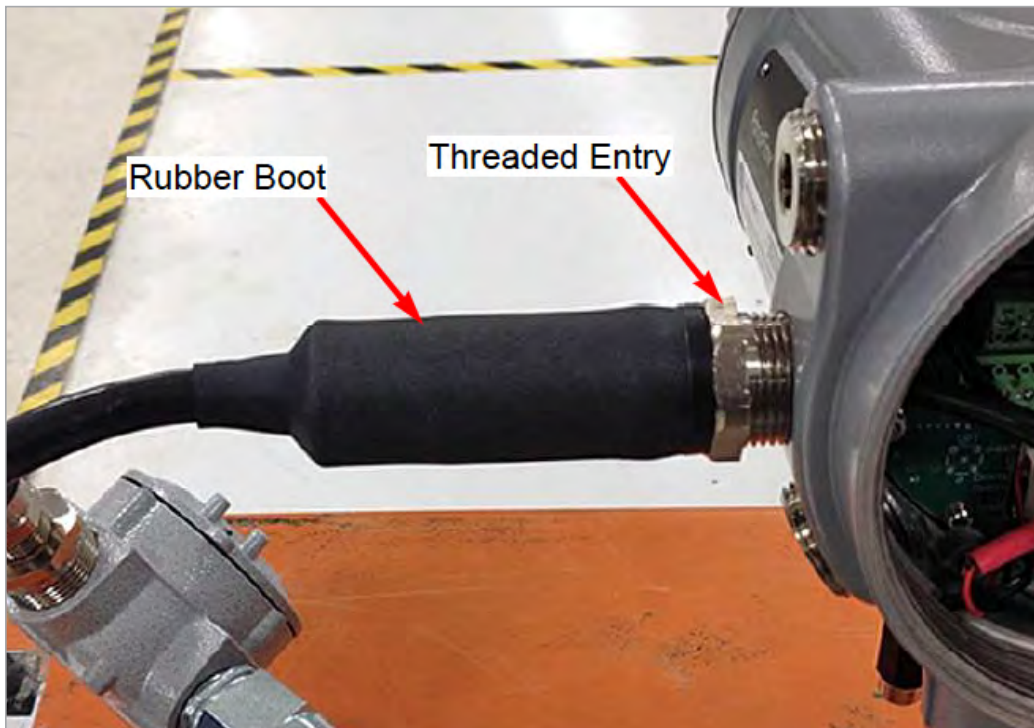

Figure 15: The Completed Cable Gland Assembly
12. Make sure the *Rubber Boot* completely covers the *Cable Gland* and that no tears have occurred in the boot during the assembly process (see *Figure 15* below).